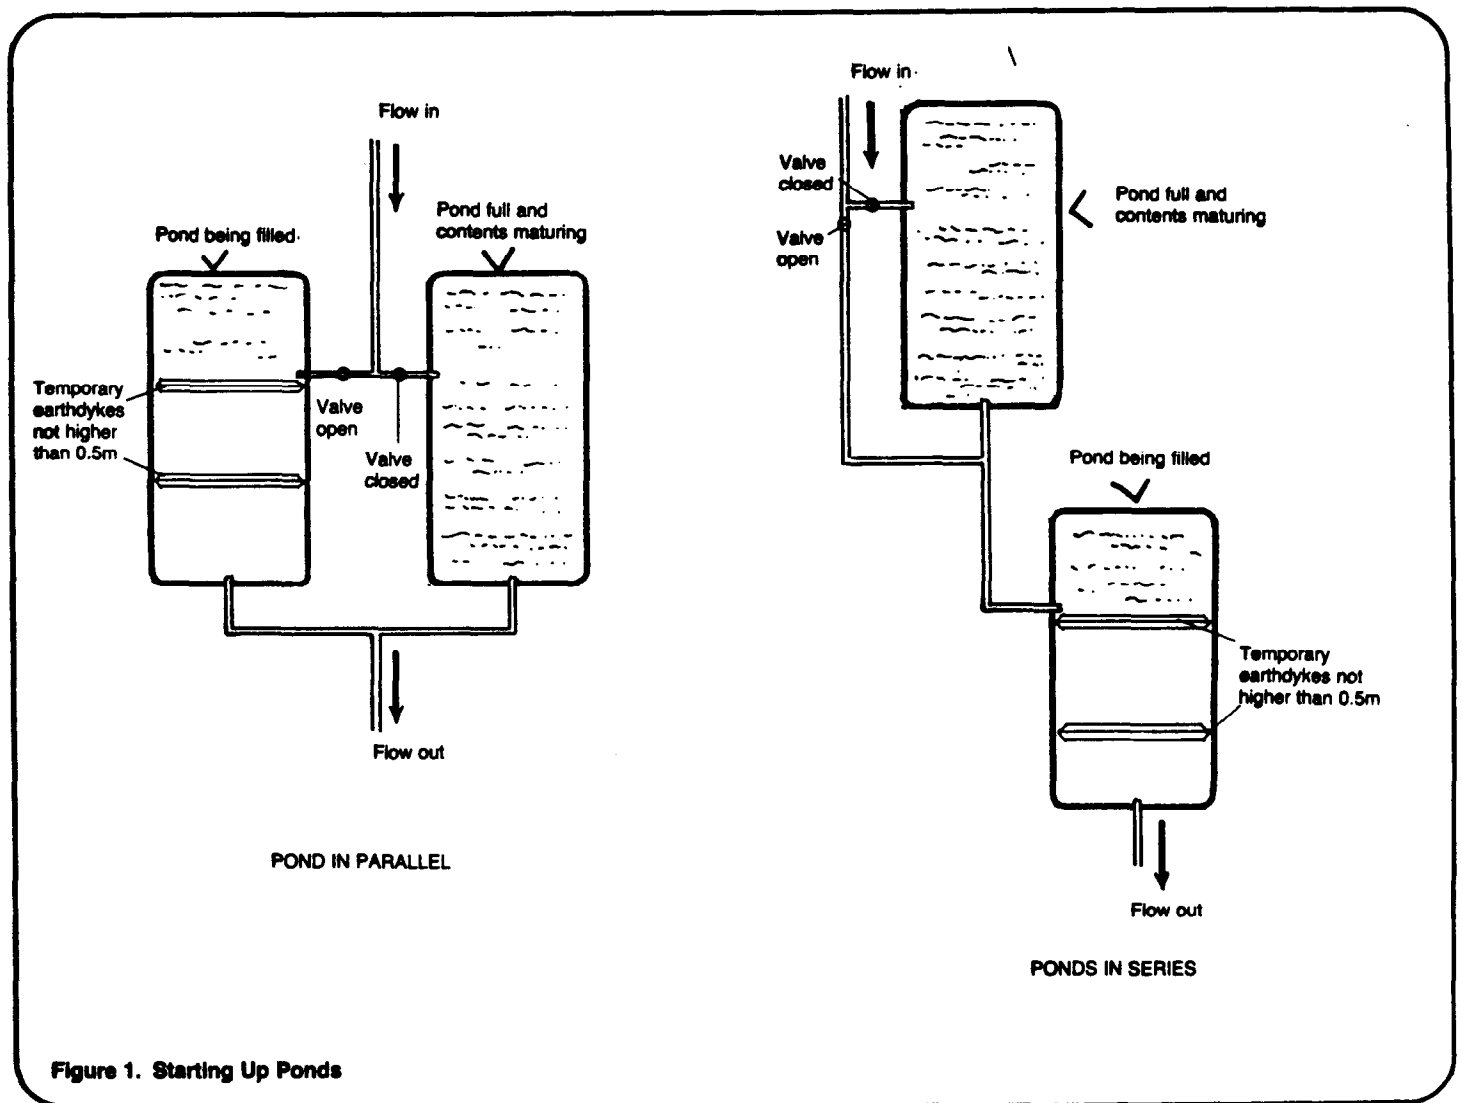

Figure 1. Starting Up Ponds
Build one or two temporary dikes across the width of the pond, dividing it in half or into thirds. Dikes are made from soil and are no higher than about 0.5m. See Figure 1.
1. Close the inlet of the first pond and divert sewage to the second pond, filling it by sections. See Figure 1.